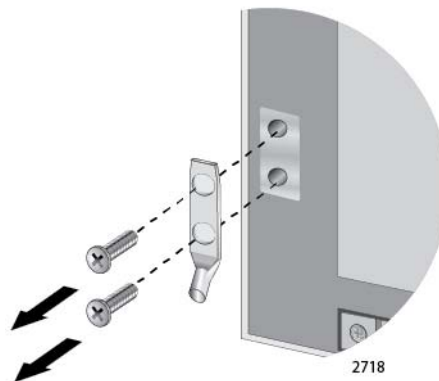

Figure 56. Removing the Grounding Lug
2. Remove the two screws that secure the grounding lug to the rear panel of the chassis, as shown in Figure 56.